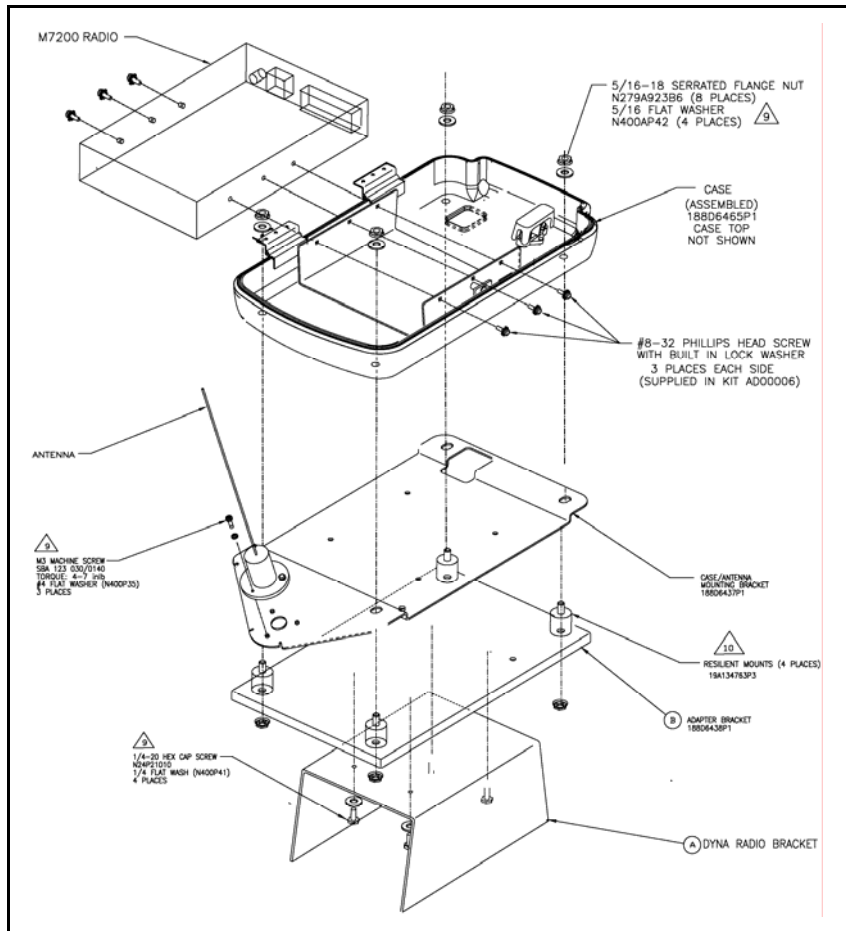
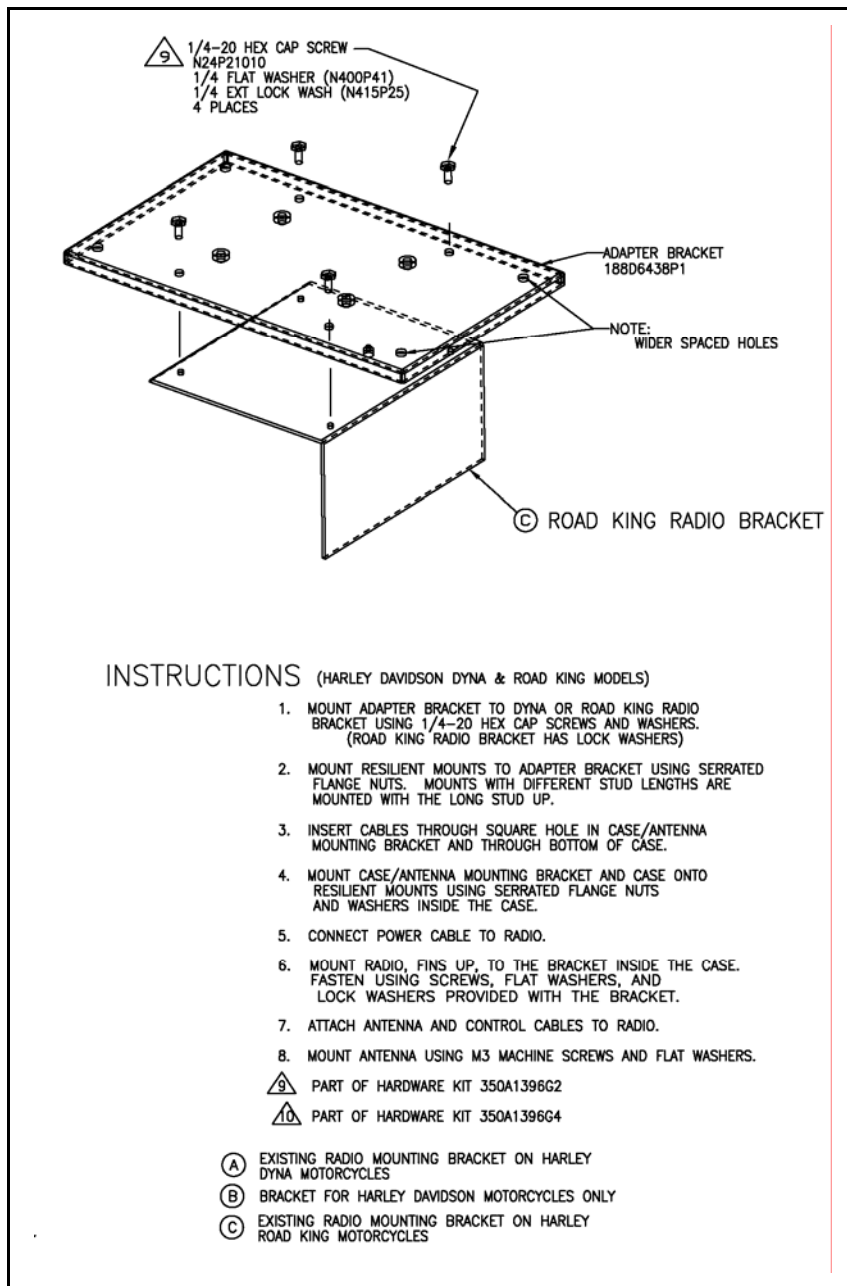

Figure 6-1: Radio Installation
Figure 6-2: Radio Installation
The motorcycle's interface with the Motorcycle Radio Case and associated hardware. Refer to Ⓐ and © in Figure 6-1 and Figure 6-2.
The motorcycle Weather Resistant Case Assembly may be installed on almost any motorcycle. Installation instructions provided here include information for the Harley-Davidson Dyna® and Road King® models as illustrated in Figure 6-1 and Figure 6-2. Refer to these diagrams during installation. Installation on other motorcycles is at the discretion of the installer.
2. Refer to Figure 6-1 and Figure 6-2 and verify all components shown in the diagrams are available.
The interface radio mounting bracket (user supplied) for the Dyna and Road King models are different and require a different mounting hole configuration. See Figure 6-1 and Figure 6-2.
5. Mount the case mounting bracket and bottom case assembly onto the 4 resilient mounts using the serrated flange nuts and flat washers included inside the case. Refer to Figure 6-1, Figure 6-3.